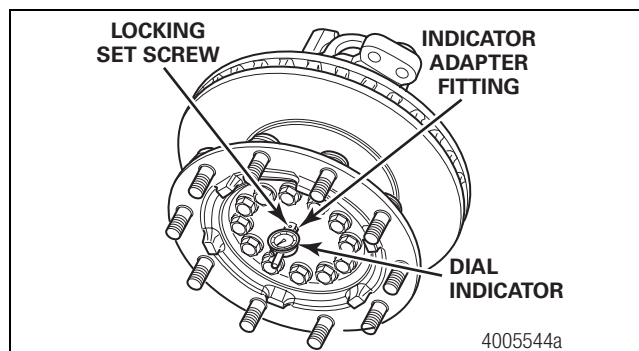

Figure 13.21
- Attach the dial indicator. Loosen the locking set screw and slowly slide the dial indicator through the fitting hole. Position the dial indicator against the hub face and tighten the locking set screw as the needle starts moving. Set the dial indicator to ZERO. Do not rotate the wheel end. Figure 13.21.